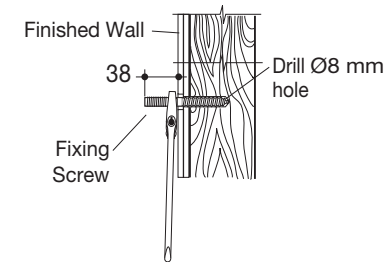

Fig 2
- 3- Insert expansion fasteners into the drilled holes in masonry wall. Screw Fixing Screws into the wall using the flats located on the screws section of the stud and spanner as shown in Fig 2. Allow 38mm of thread to protrude from the finished wall.